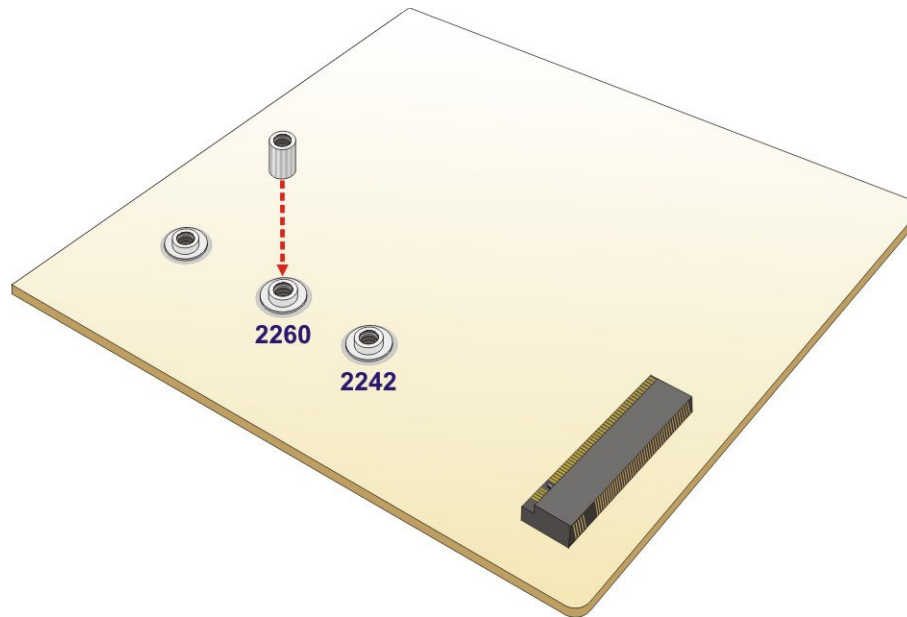

Figure 4-6: Installing the Standoff
Step 3: Install the previously removed standoff to the screw hole for the 2242/2260-size M.2 module (**Figure 4-6**).